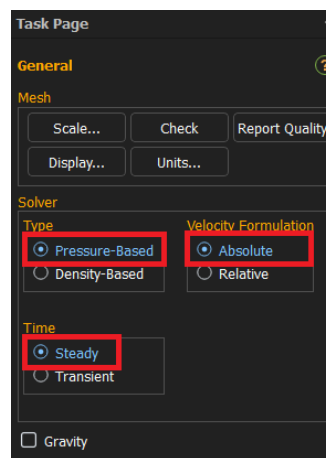

Figure 42: Solver selection in Fluent Task page.
2. Check that, in the *Task Page*, the solver selected is the *Pressure-Based* with *Absolute* Velocity Formulation and that the *Steady* formulation is chosen, as indicated in figure 42